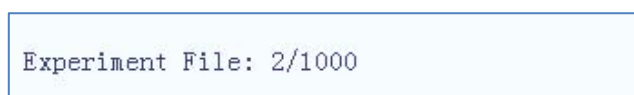

Figure E-2.2. Experiment File Tab - Experiment File Information Window
2. **Experiment File Information Window:** display the pre-existed experiment quantity within the instrument system, as shown in figure E-2.2.